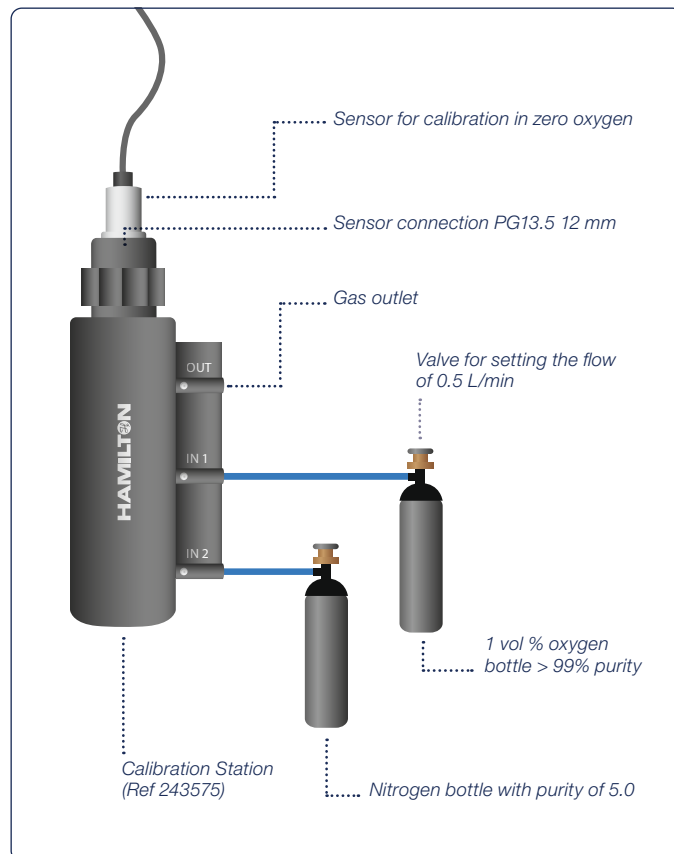

Figure 15: Zero point calibration setup.
- 1) Install the sensor into the Hamilton calibration station Ref 243575 and connect the Nitrogen calibration gas (Figure 15)